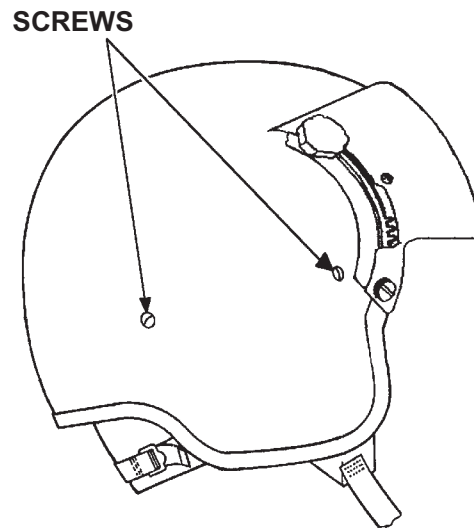

Figure 4-10. Retention Assembly Attachment Points
7. Referring to Figure 4-10, remove the remaining two pan-head screws, spring washers, and posts attaching the retention assembly to each side of the helmet shell.